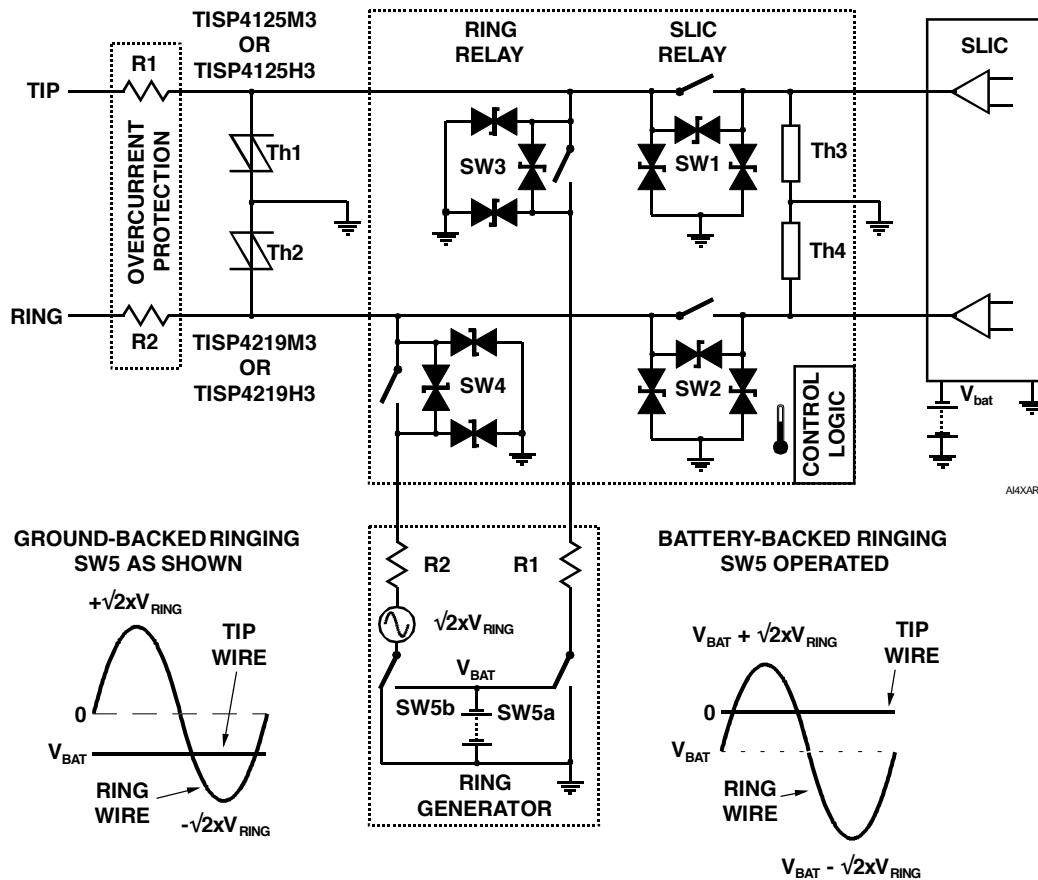

Figure 13. LCAS Shown with Switch Breakdown Limits
Figure 13 shows the LCAS switch voltage ratings as breakdown diodes, which must not be allowed to conduct. Each switch has three diodes; one between poles and the other two from each pole to ground. At 25 °C, switches SW1 through to SW3 have breakdown diode voltages of  $\pm 320$  V. Switch SW4 has breakdown diode voltage values of  $\pm 465$  V for the one between poles and  $\pm 320$  V for the two diodes connected to ground. Note that only protection to ground is required, as in the limit, the inter-switch voltage limitation of  $\pm 640$  V is the same as the switch to ground limitation of +320 V and -320 V in both polarities.
- ground-backed and battery-backed ringing configurations (see Figure 13).